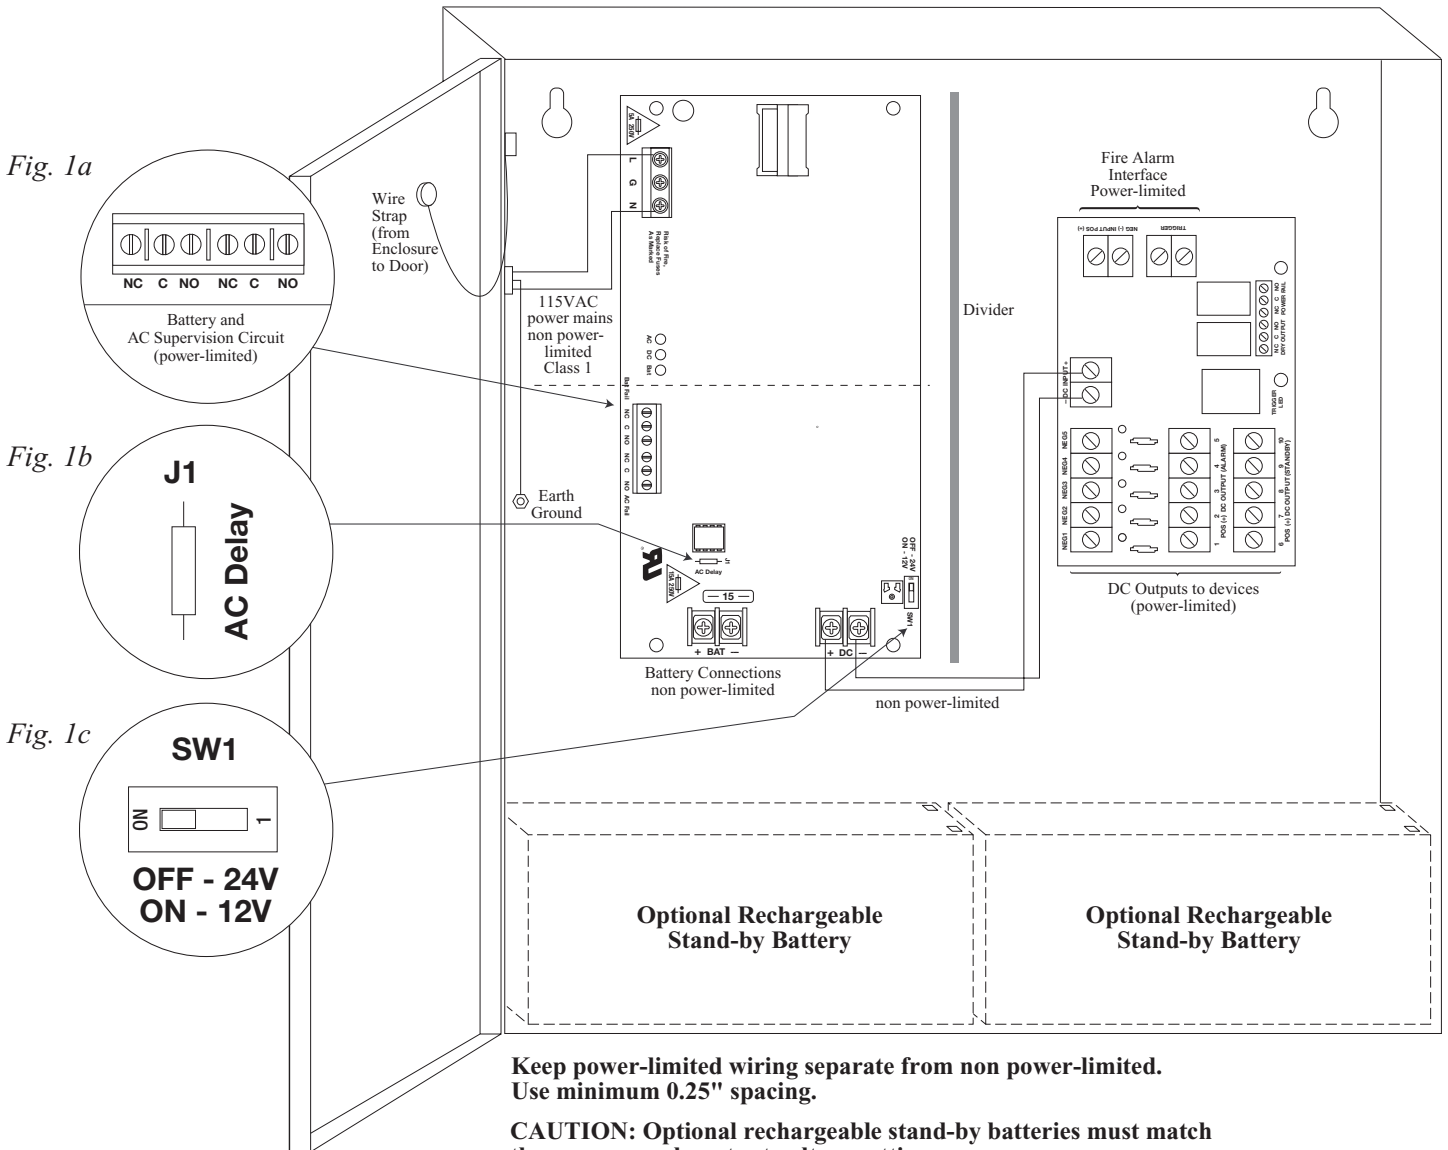

Fig. 1a
11. Connect supervisory trouble reporting devices to outputs marked [AC FAIL, LOW BAT] and [Power Fail] supervisory relay outputs marked [NO, C, NC] on power supply board (*Fig. 1a, pg. 5; Fig. 2a, pg. 6; Fig. 3a, pg. 7; Fig. 4, pg. 8*). Use 22 AWG to 18 AWG for AC Fail & Low Battery reporting.